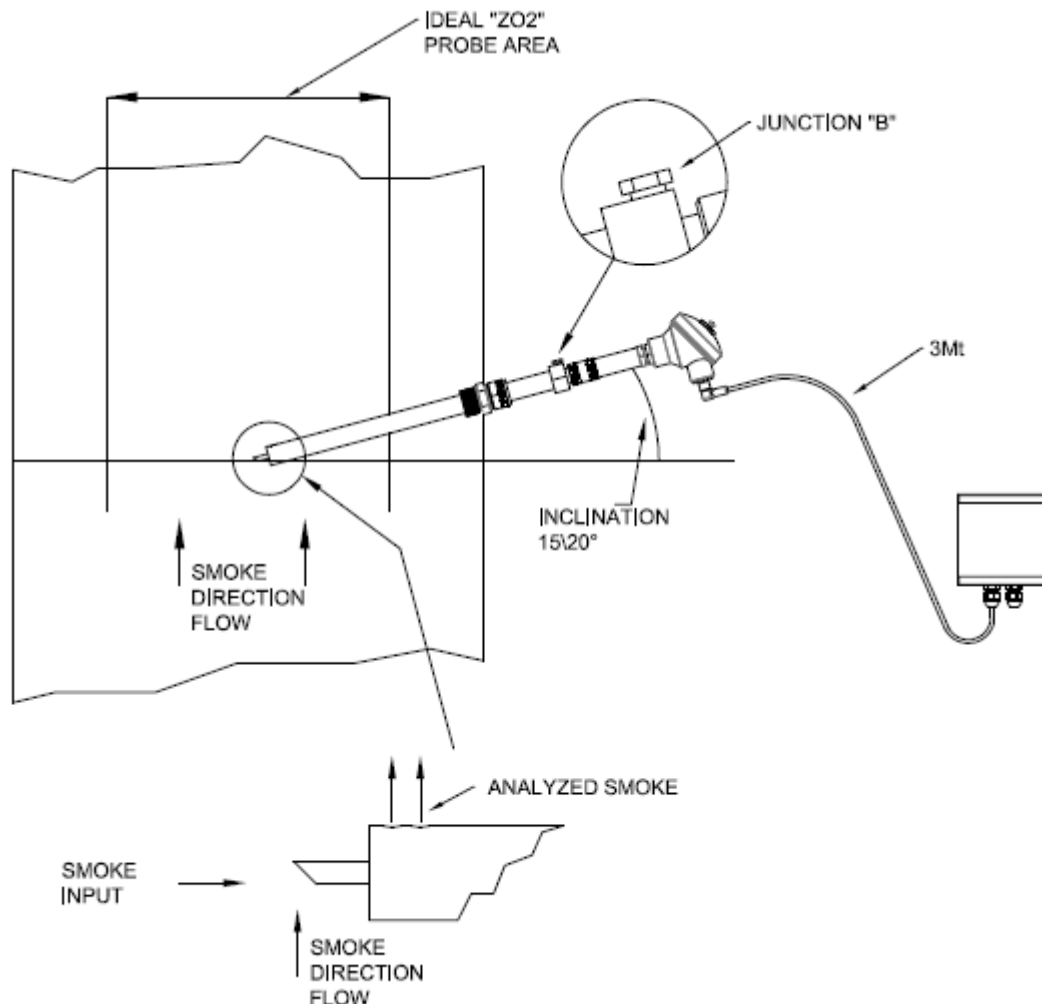

Figure 2
- Place probe perpendicular to the smoke direction flow and tilted about 15-20° (see figure 2)
- Insert the probe in the central area of the duct (as shown in figure 2) and then lock the probe in position by tightening the fixing nipples